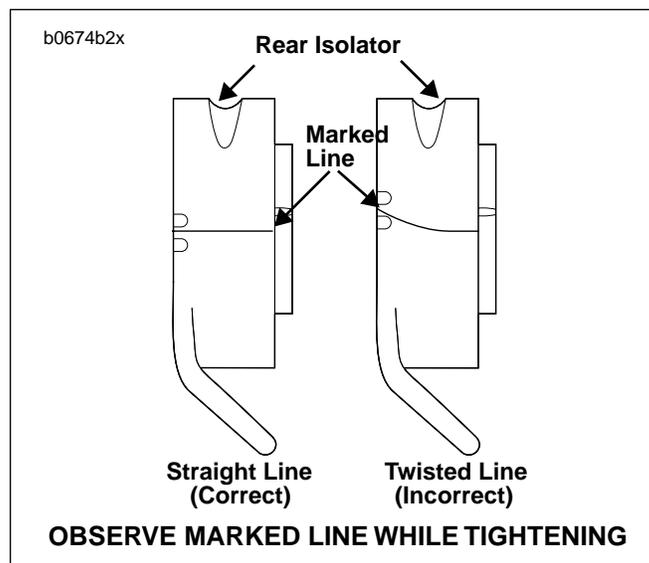

Figure 6. Checking Isolator Alignment
9. See Figure 6. Mark a horizontal line across the front of each isolator with a light colored grease pencil or by other non-permanent means.
See Figure 6. Observe marked line on both rubber isolators after isolator bolts are tightened. If line twists, apply more LOCTITE ANTI-SEIZE to underside of isolator bolt heads. Failure to comply will result in damage to rubber isolators.
7. See Figure 6. Mark a horizontal line across the front of each isolator with a light colored grease pencil or by other non-permanent means.
See Figure 6. Observe marked line on rubber isolator after isolator bolt is tightened. If marked line twists, apply more LOCTITE ANTI-SEIZE to underside of isolator bolt heads. Failure to comply will result in damage to rubber isolators.